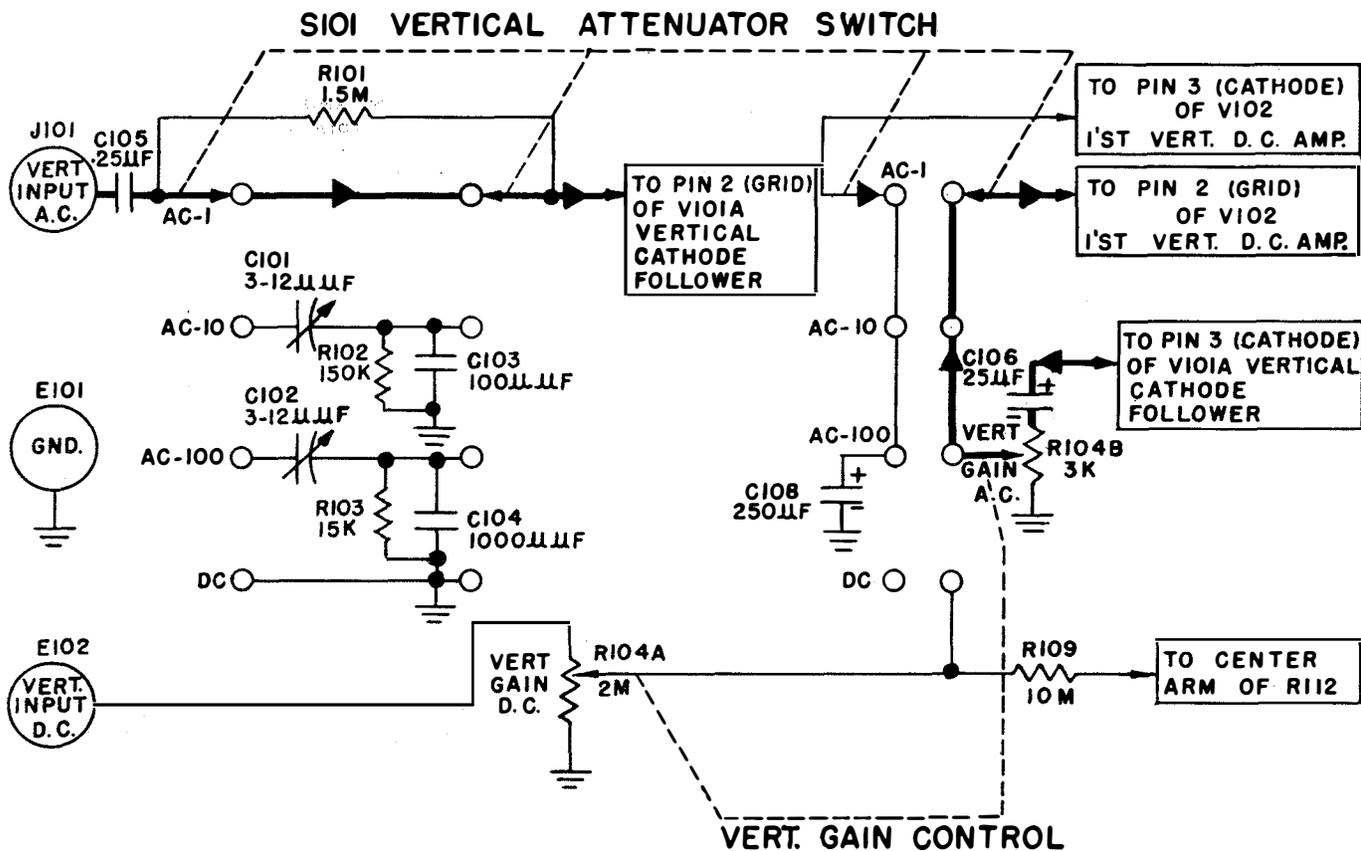

Figure 2-2. Vertical Input Attenuator
(1) VERT. ATTN. AND VERT. GAIN. (See Figure 2-2)